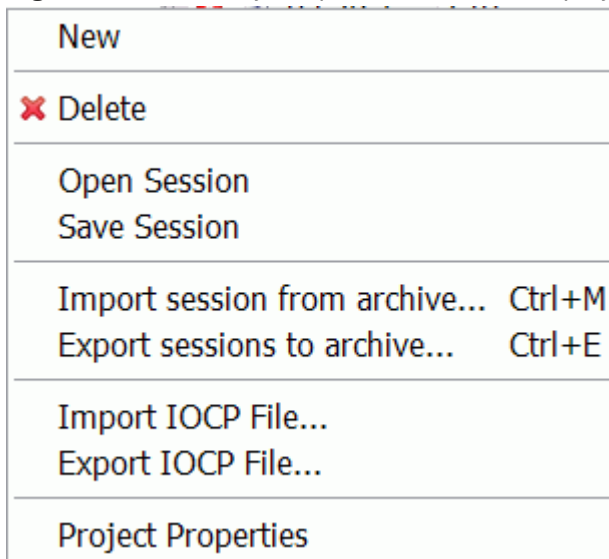

Figure 54. Right clicking displays actions
2. Right-click in the Projects pane. This action displays a menu. Figure 54 on page 43 shows this menu.